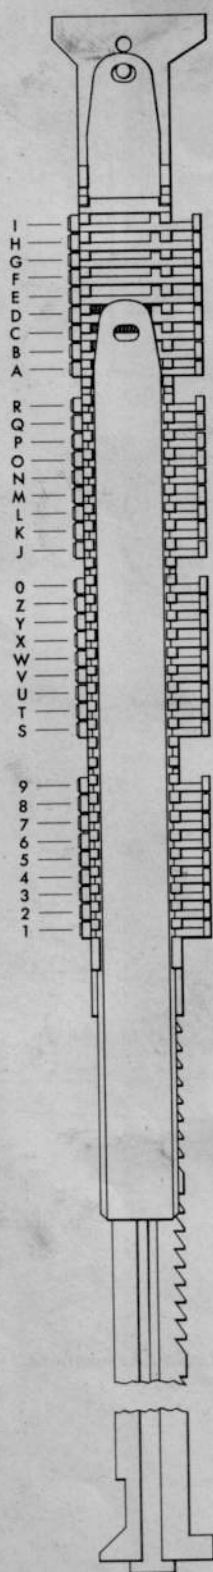

Figure 11. Type Bar
1. Lift the end of the cover plate from the stud in the typebar (Figure 11), and the plate may be slid down to expose the type and type springs. Another cover plate should be inserted in the slides to act as a follower to retain the springs and type pieces.